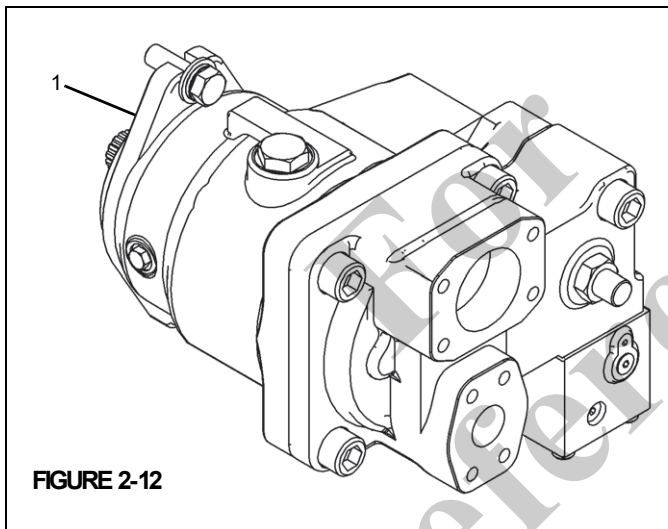

FIGURE 2-12
- Bolt the pump (1, Figure 2-12) to the PTO with the pump mounting flange.